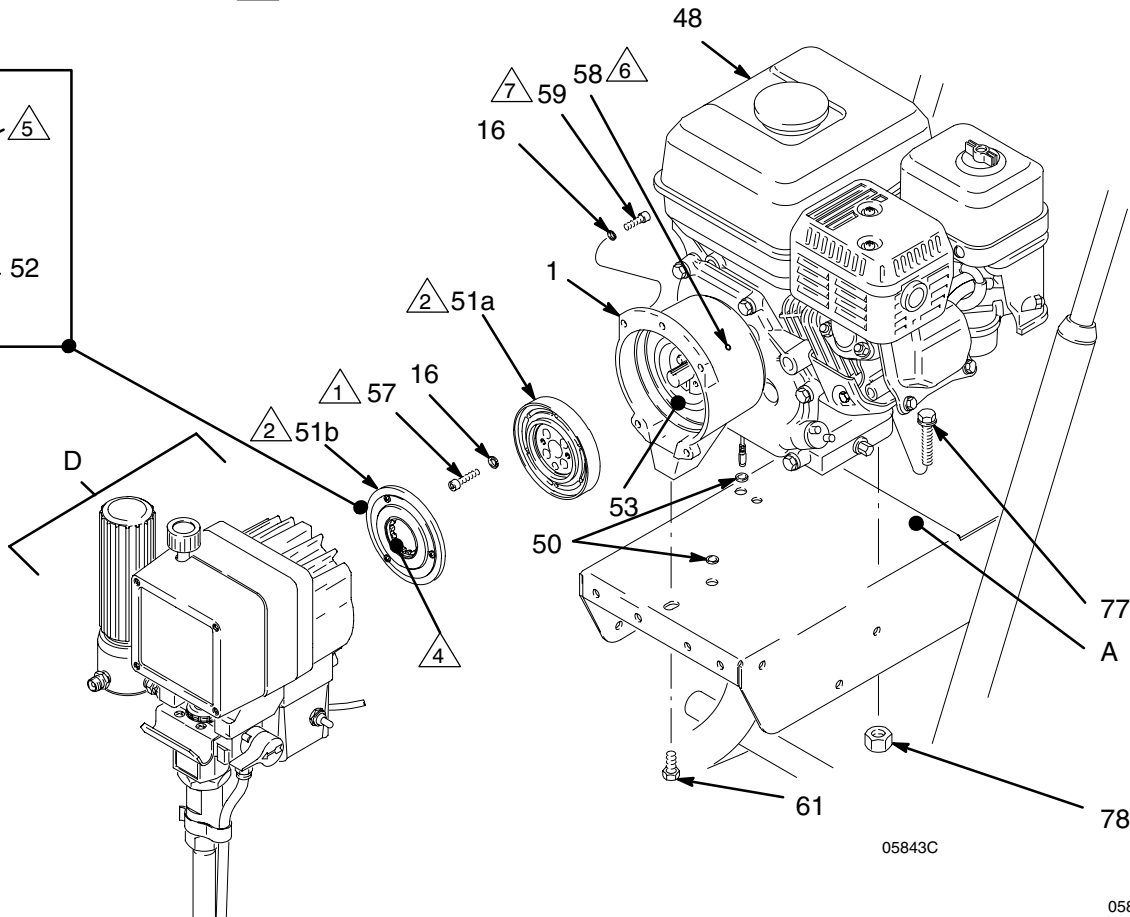

Fig. 23
- Be sure the face of the **rotor (51a)** and the clamp (55) are free of all burrs. Install the rotor, lock-washers (16) and capscrews (57). Torque the capscrews to 7 ft-lb (9.5 N.m). See Fig. 23.
- After installing the rotor (51a) the air gap must be adjusted between the rotor and the field (53). Tighten the setscrews (58) oppositely and evenly. Pull the engine recoil rope to assure that the engine turns freely, and there is no contact between the rotor and the field. If there is contact, loosen the setscrews and reposition the field.
- Clean the face of the **armature (51b)**. With the flat side of the armature facing the rotor (51a), slide the armature onto the hub (2h) in the drive/pinion assembly (D) just until the chamfered end of the hub (2h) protrudes through the armature. See Detail B, Fig. 23. There will be significant resistance. Attach the cardboard spacer, supplied with the clutch kit, to the face of the armature. Bend tabs over outside diameter of armature.
- Assemble the **drive assembly (D)** to the clutch housing (1), using the capscrews (59) and lock-washers (16). See Fig. 23.